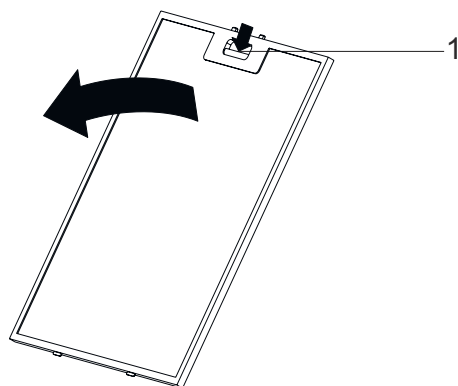

Fig. 8
- Press the aluminium filter tab (1) and pull the aluminium filter to the direction of the arrow (Fig. 8).